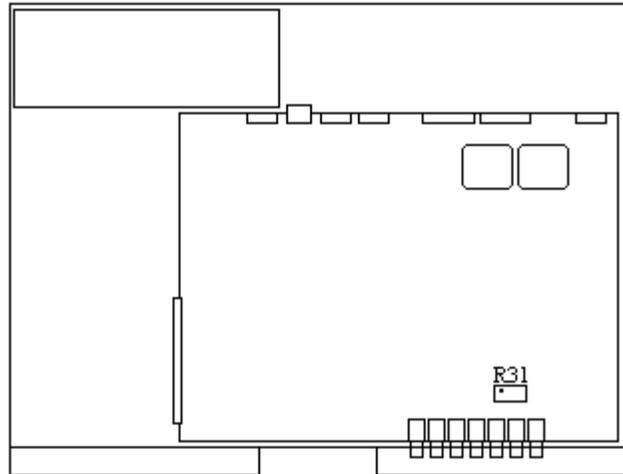

Figure 18 - GETC Shelf
- The High Speed Data Deviation is set using R31 on the GETC Logic Board (see Figure 18). When the GETC is in this test mode, audio is routed from the High Speed Data input to the station. No other signals (receiver, line in) will be transmitted. The signal from the GETC to the transmitter is 9600 BAUD Pseudo - Random Data. Measure the transmitter deviation and adjust R31 on the GETC Board for 3.0 kHz (2.4 kHz NPSPAC)  $\pm 100$  Hz deviation.